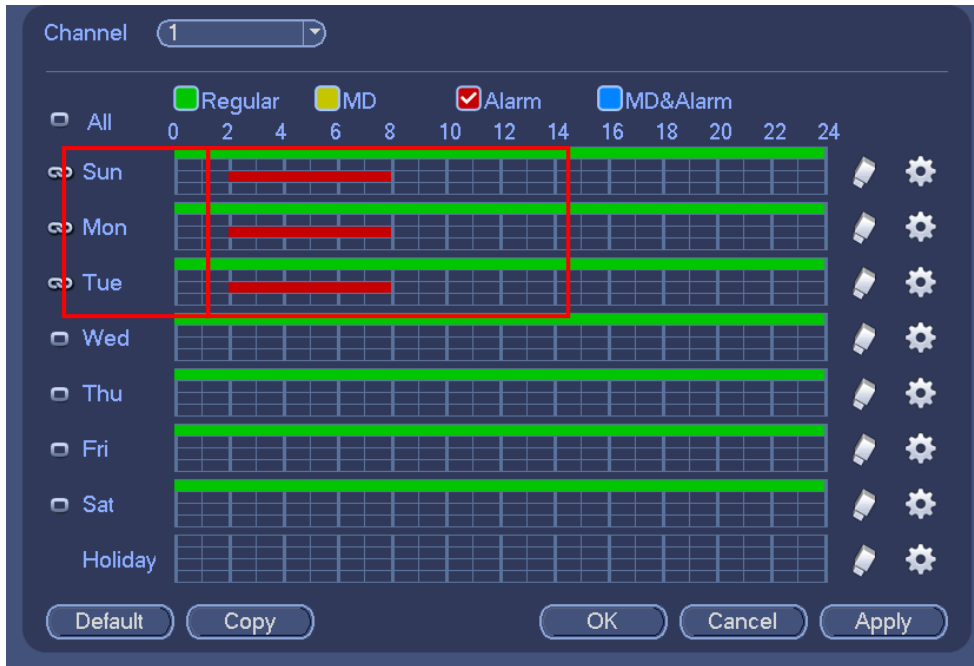

Figure 4-91
- ✧ Please draw manually to set record period. There are six periods in one day. See Figure 4-91.